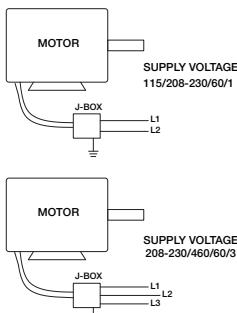

Figure 6 —
NOTE: Refer to Figure 6 for connection wiring diagram.
2. Belts too tight/loose	2. Refer to Figure 6, adjust tension